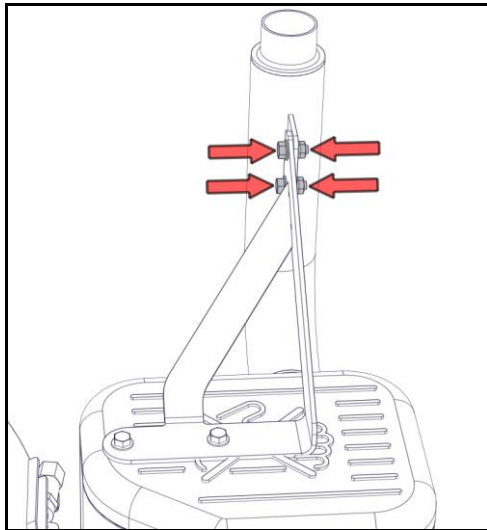

Figure 9 – Exhaust fasteners
- Apply blue Loctite® and torque the bracket fasteners to specification (Figure 9).